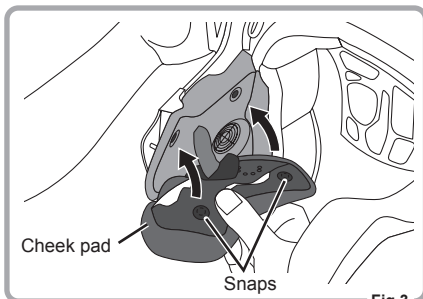

Fig.3
3. Fasten securely the 2 snaps on the back of the Cheek Pads. And repeat the same procedure on the other Cheek Pad. (Fig.3)